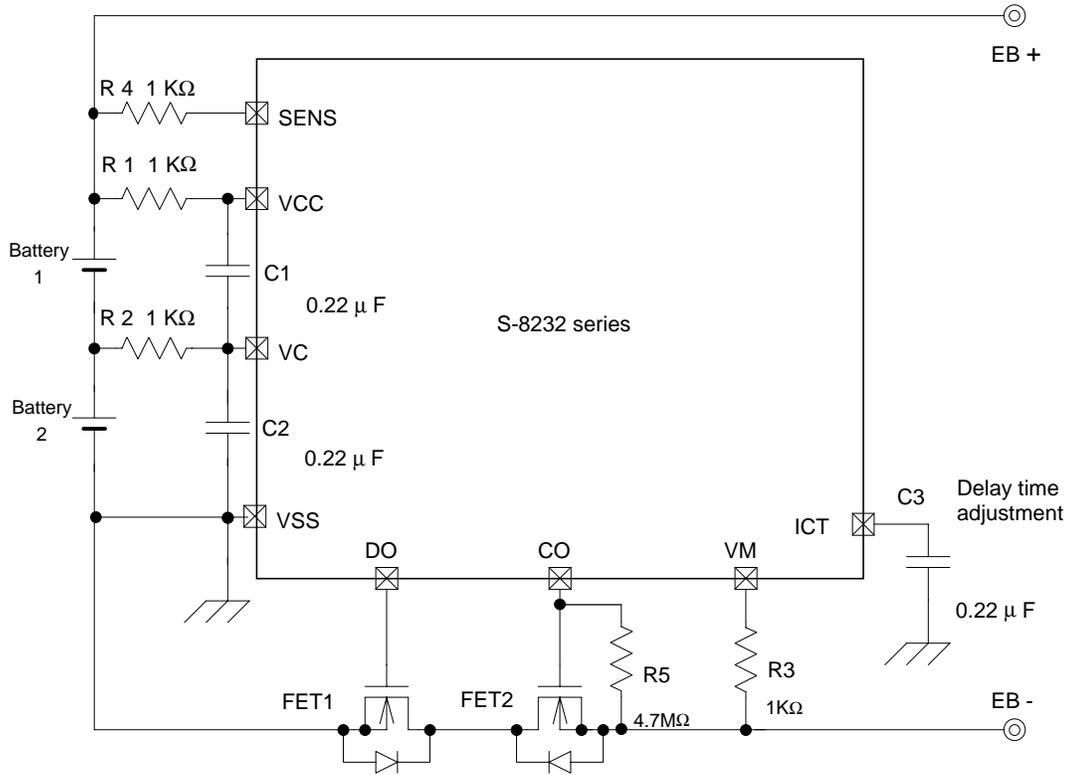

Figure 6
When the discharging FET is off and a load is connected, the VM terminal voltage equals the VCC potential. The over current condition returns to the normal condition when the load is released and the impedance between the EB- and EB+ terminals (see Figure 6 for a connection example) is 200MΩ or higher. When the load is released, the VM terminal, which and the VSS terminal are shorted with the Rvsm resistor, goes back to the VSS potential. The IC detects that the VM terminal potential returns to over current detection voltage 1 (VIOV1) or lower and returns to the normal condition.
4.7M Ω resistor is required between CO terminal and EB- terminal. Please refer figure 6.